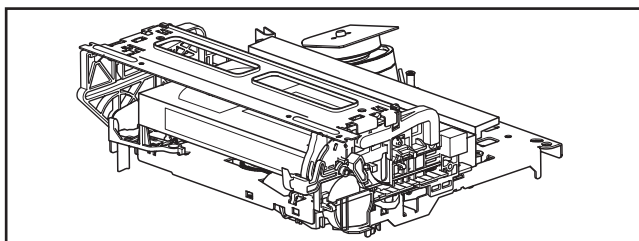

Fig.5-1a
- (1) Unplug the power cord plug from the power outlet.
- (2) Refer to the disassembly procedure of the VCR and perform the disassembly of the major parts before removing the mechanism assembly. (See Fig. 5-1a)